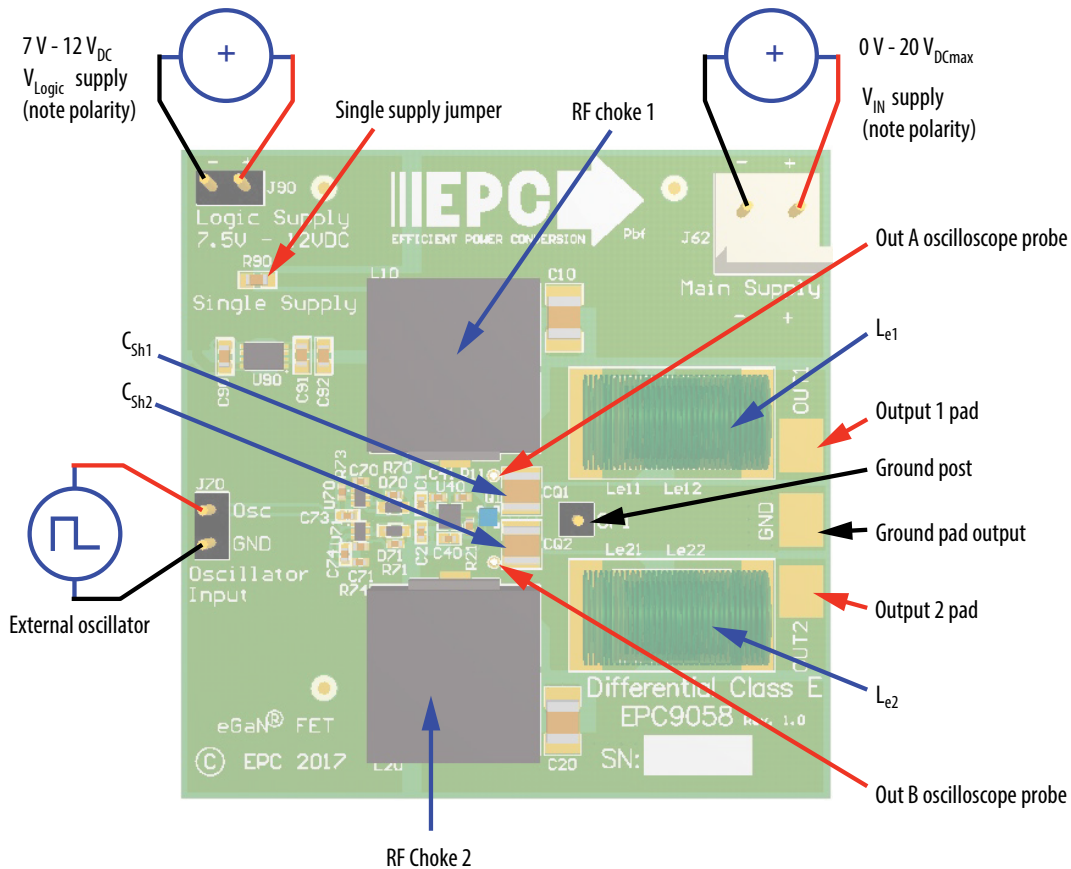

Figure 5: Proper connection and measurement setup for the amplifier board.
2. With power off, connect the main input power supply bus to J62 as shown in figure 5. Note the polarity of the supply connector. Set the voltage to 0 V.
3. With power off, connect the logic input power supply bus to J90 as shown in figure 5. Note the polarity of the supply connector. Set the voltage to between 7 V and 12 V.